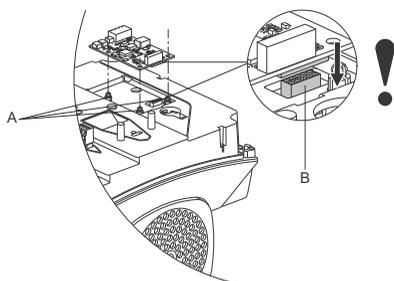

Fig. 62 Fitting the CIM module
- Fit the CIM module by aligning it with the three plastic holders (fig. 62, A) and the connecting plug (fig. 62, B). Press home the module using your fingers.